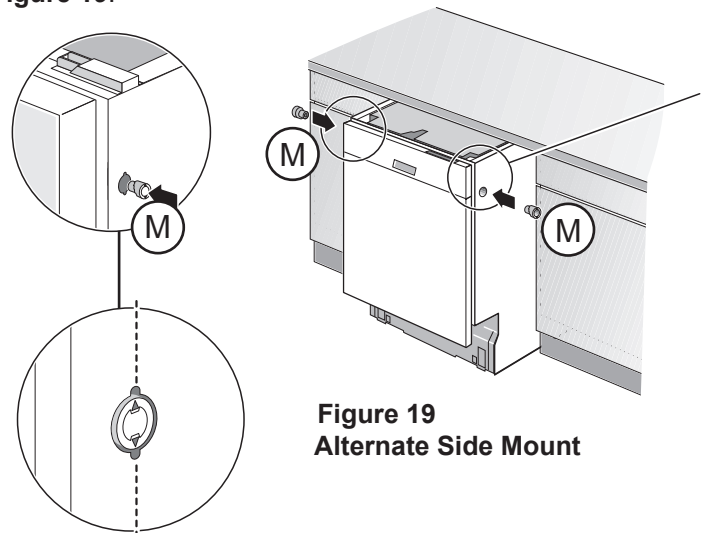

Figure 19
Alternate Side Mount for opening $23\frac{5}{8}$ " (600 mm). Insert a side mount force distributor (M) in each side as shown in **Figure 19**.